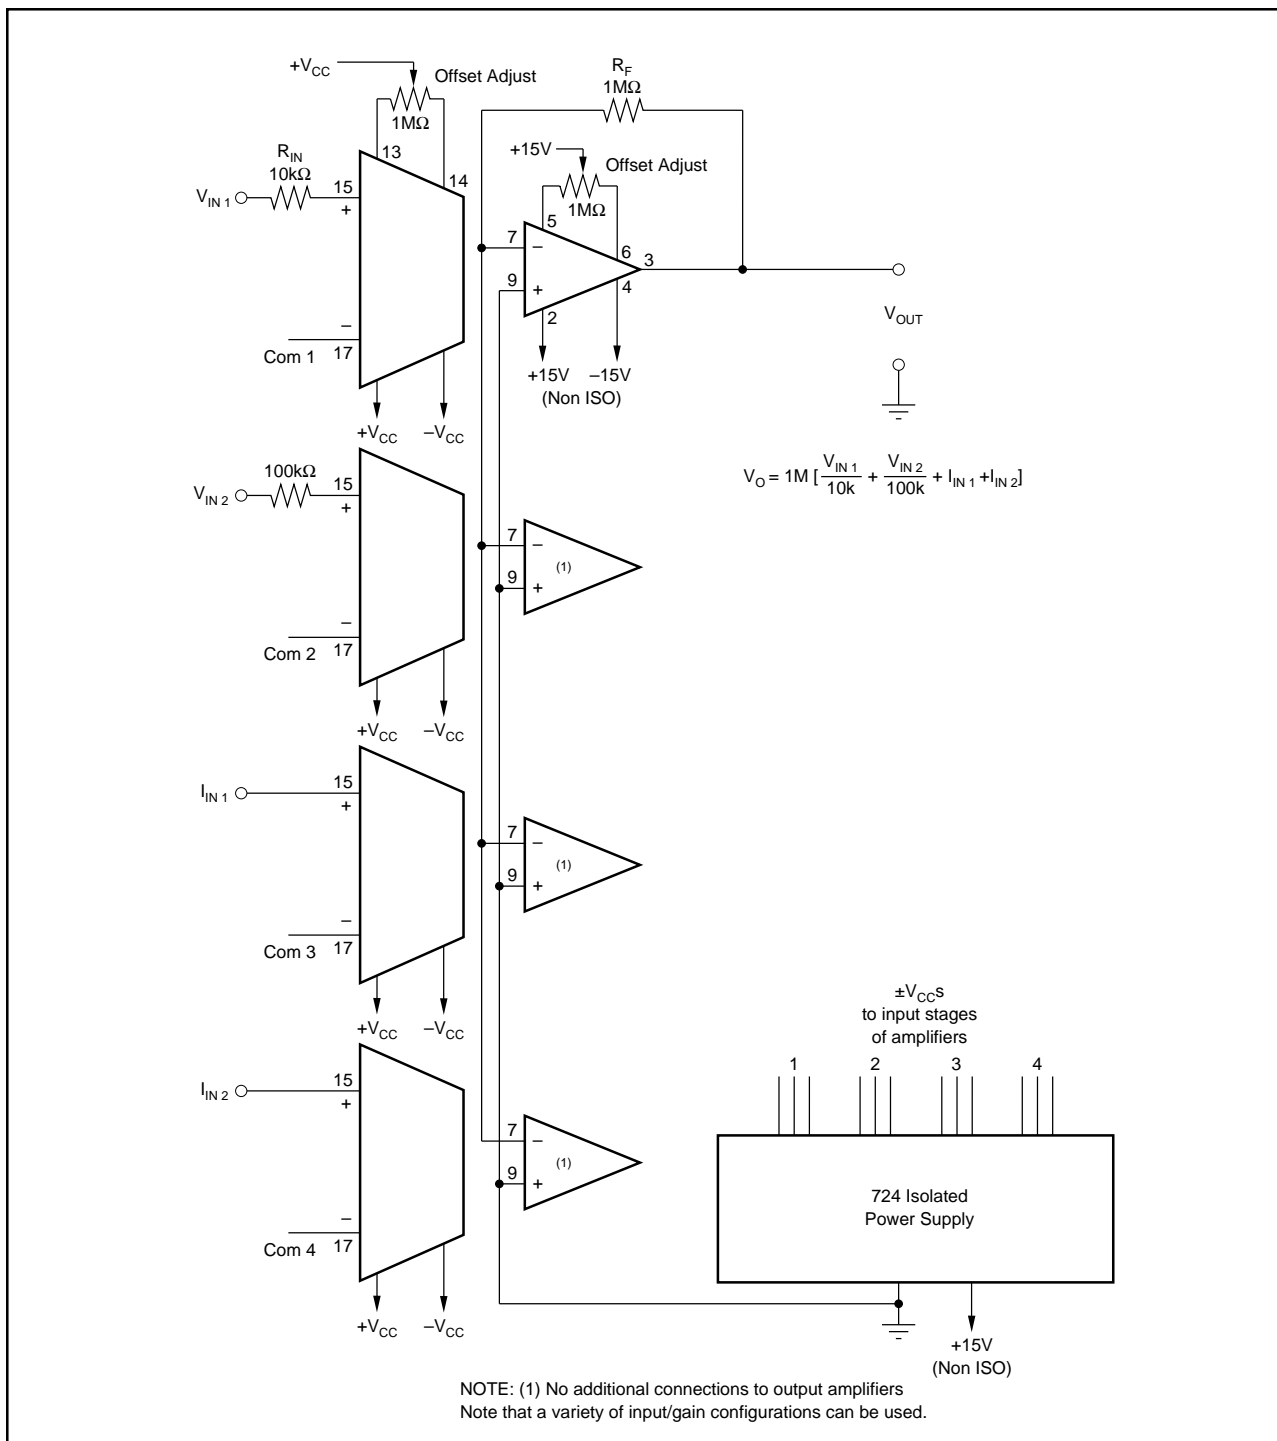

FIGURE 17. Four-Port Isolated Summing Amplifier (Unipolar).
**There are two major sources of offset error:** offset voltage and offset current.  $V_{OS1}$  and  $V_{OSO}$  of the input and output amplifiers can be adjusted independently using external potentiometers. An example is shown in Figure 17. Note that  $V_{OSO}$  (500μV, max) appears directly at the output, but  $V_{OS1}$  appears at the output multiplied by gain ( $R_F/R_{IN}$ ). In general,  $V_{OS}$  is small compared to the effect of  $I_{OS}$  (see Example 1). To adjust for  $I_{OS}$  use a circuit which intentionally unbalances the offset in one direction and then allows for adjustment back to zero.